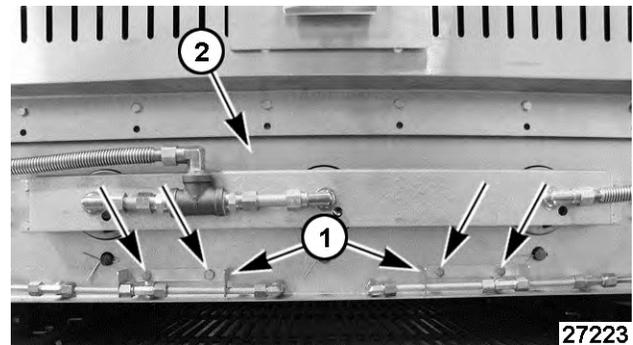

Fig. 13
5. Remove screws securing pilot tube mounting brackets [1] Fig. 13 to burner support [2] Fig. 13. Position pilot tube assemblies out of the way to the sides.